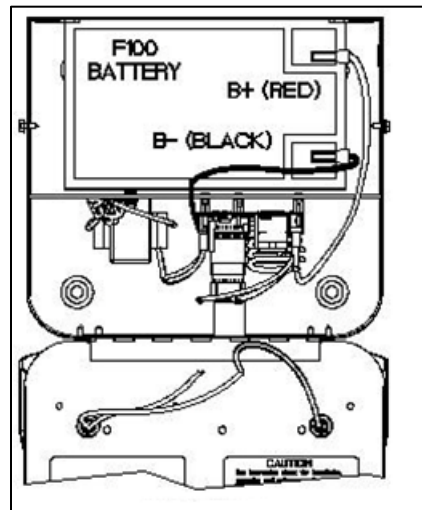

Figure 3
8. Install batteries in battery chamber. Do not lift batteries by terminals. (Figure 3)